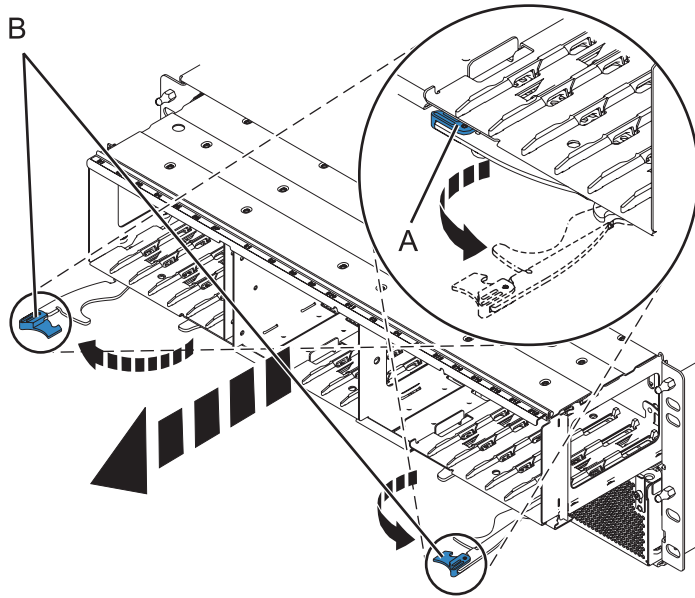

Figure 66. Removing the backplane from the enclosure
6. Remove the backplane as shown in Figure 66 on page 84.